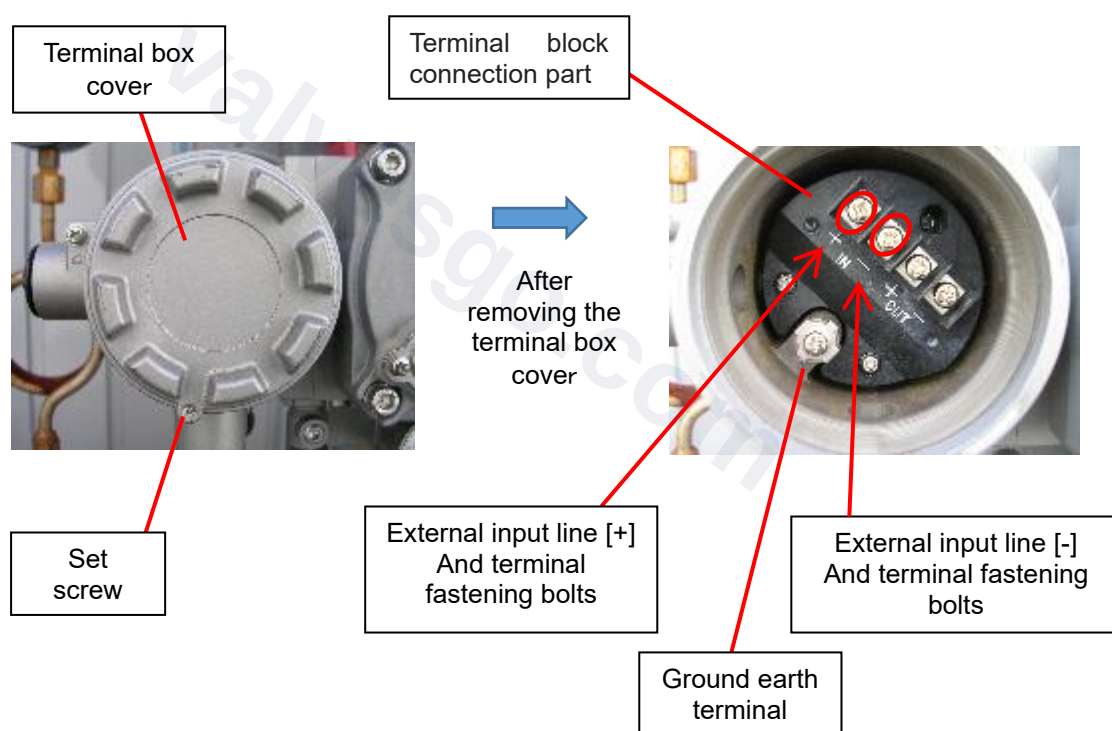

Fig.13
*Terminal wiring method (See Fig.13)
- ① Remove the set screw of the terminal box (Use the hex wrench) and remove the terminal box cover.
- ② Please connect the positive terminal of the terminal block located in the terminal box to the positive line of external input line. (In case of negative terminal, please connect the negative terminal of the terminal block located in the terminal box to the negative line of external input line). To protect the positioner, earth the gland earth terminal. When connecting, please tighten the terminal fastening firmly so that there is no connection failure.
- ③ After connecting the external line, tighten and fix the set screw after closing the terminal box cover. (Tightening torque: $0.25\text{N} \cdot \text{m}$)